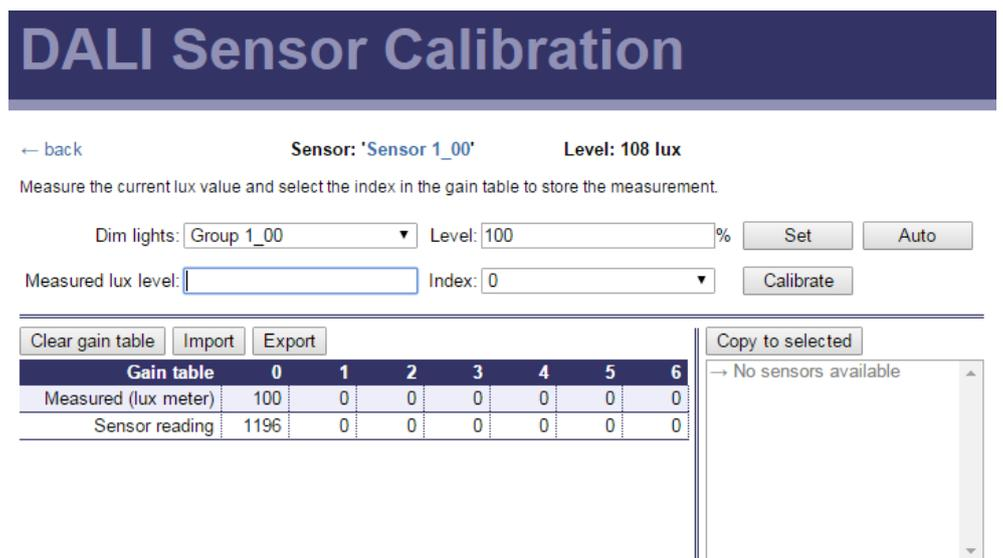

Figure 38: DALI Installation Web Interface: Sensor Calibration.
- Go to the DALI Installation page and press the **Calibrate** button next to the sensor that is to be calibrated. The DALI sensor calibration page is shown in Figure 38.